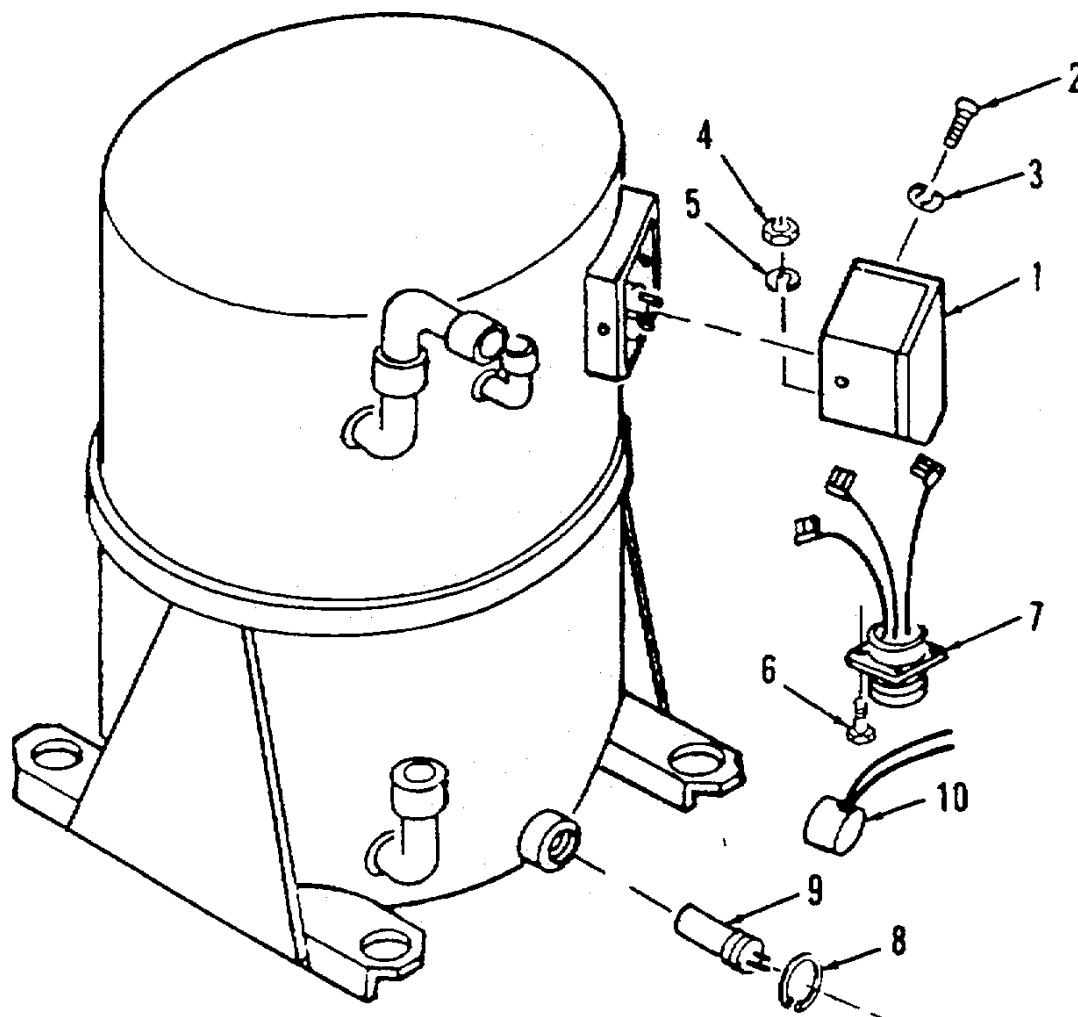

Figure 4-22. Compressor Repair.
**a. Test.** (Refer to Figure 4-22).
(1) Allow heater to cool before touching.
**b. Repair.** (Refer to Figure 4-22).
**(1) Connector J4 Replacement.** (Refrigerant system discharge is not required.)